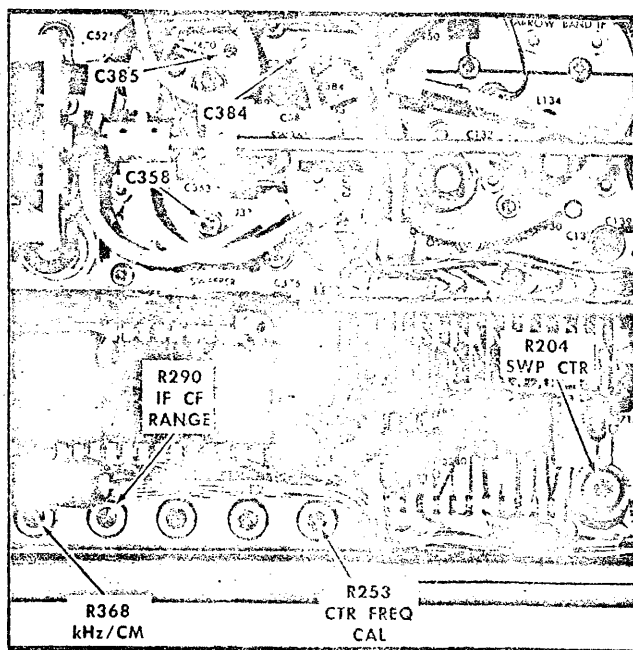

Fig. 6-4. Location of sweeper and discriminator adjustments.
- c. Adjust the IF CF Range R290 (see Fig. 6-4) for 0.75 volts ± 0.1 V of trace deflection on the test oscilloscope.
- g. Adjust the Center Freq Cal R253 (Fig. 6-4) for minimum IF signal shift as the DISPERSION selector is switched between the 10 MHz and .2 MHz positions. The DISPERSION RANGE switch must be in the MHz/CM position for this adjustment.
i. Adjust the Sweep Center R204 (Fig. 6-4) to position the 200 MHz signal at the graticule center line.
2. Adjust Frequency Dispersion and Linearity ①
d. Adjust the DISP CAL R208 for a 1 marker/centimeter over the center 8 graticule divisions, then adjust C358 (Fig. 6-4) for optimum display linearity.